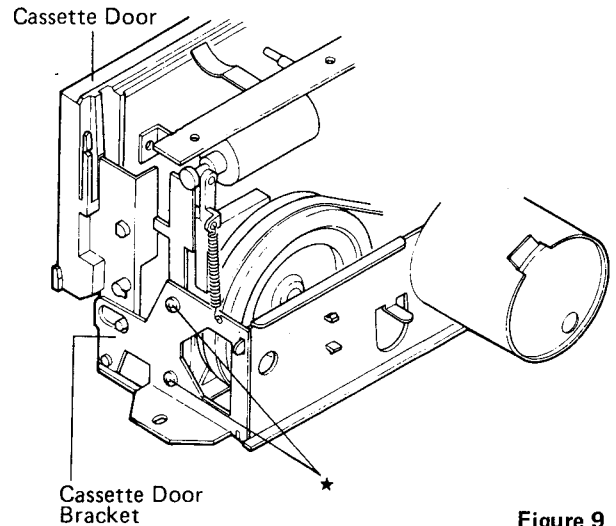

Figure 9
- (1) Remove two screws marked "★" from the cassette door bracket of the cassette deck as shown in Figure 9 and the cassette door can be removed.